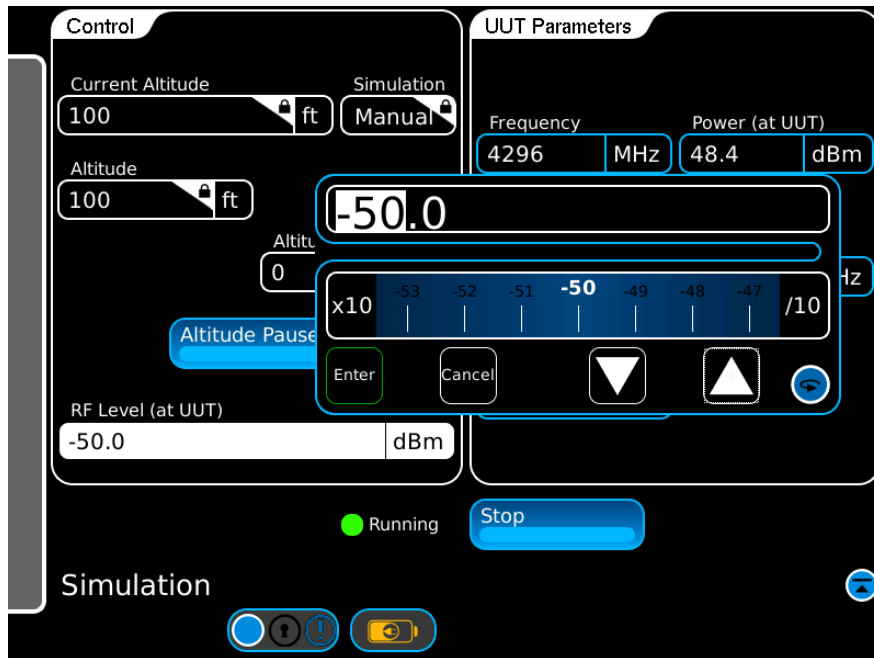

**Figure 5-1 Test Setup – RF Settings - Manual**
6. Set **RF Settings – Level Mode** to **Manual**. See Figure 5-1.